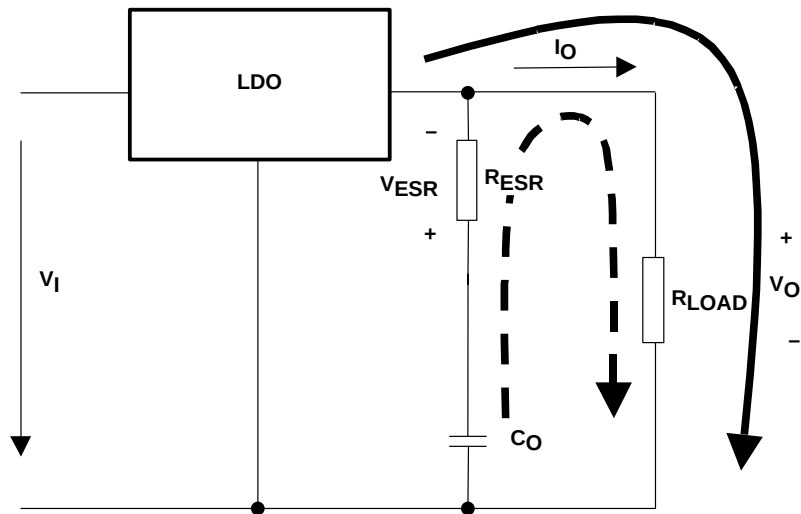
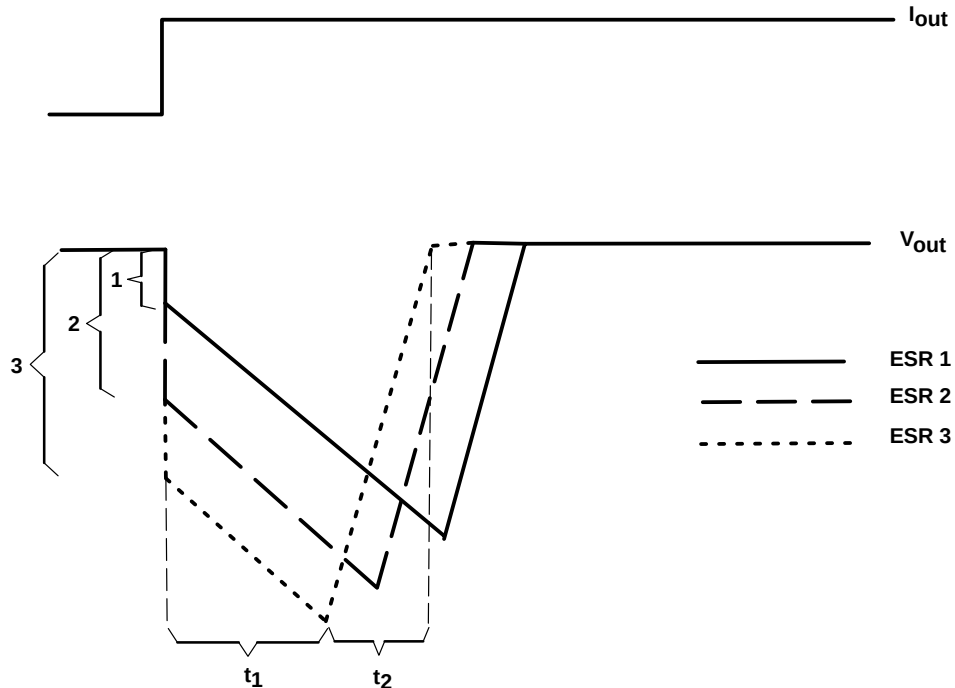

**Figure 22. LDO Output Stage With Parasitic Resistances ESR and ESL**
Figure 23. Correlation of Different ESRs and Their Influence to the Regulation of  $V_{out}$  at a Load Step From Low-to-High Output Current
Figure 22 shows the output capacitor and its parasitic impedances in a typical LDO output stage.
- The LDO is not able to supply the sudden current need due to its response time ( $t_1$  in Figure 23). Therefore, capacitor  $C_{out}$  provides the current for the new load condition (dashed arrow).  $C_{out}$  now acts like a battery with an internal resistance, ESR. Depending on the current demand at the output, a voltage drop will occur at  $R_{ESR}$ . This voltage is shown as  $V_{ESR}$  in Figure 22.
- When  $C_{out}$  is conducting current to the load, initial voltage at the load will be  $V_{out} = V_{C_{out}} - V_{ESR}$ . Due to the discharge of  $C_{out}$ , the output voltage  $V_{out}$  will drop continuously until the response time  $t_1$  of the LDO is reached and the LDO will resume supplying the load. From this point, the output voltage starts rising again until it reaches the regulated voltage. This period is shown as  $t_2$  in Figure 23.